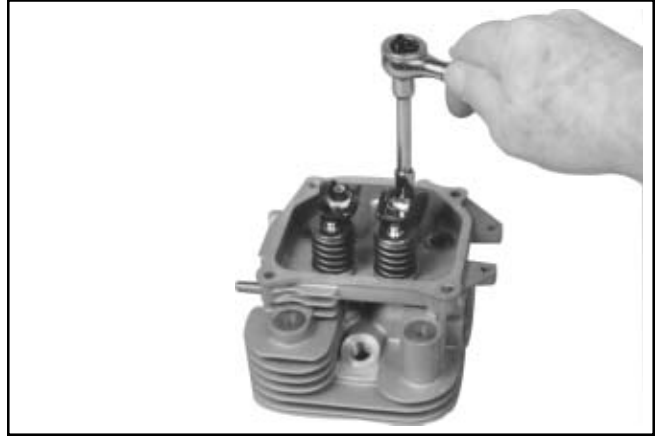

Figure 9-39. Removing Rocker Arm.
1. Remove the two hex. flange screws, rocker arm pivots and rocker arms from the cylinder head. See Figure 9-39.